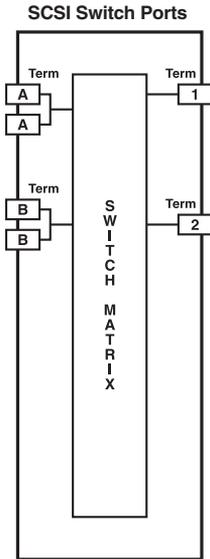

Figure 2-1. SC121A block diagram.
Ports A and B are fully bidirectional to ports 1 and 2 (see Figures 2-1 through 2-3). You determine where to connect computers, host adapters, and peripherals. In general, if daisy-chained ports are required for connection to external peripherals, use ports A or B.
- 3. In Figures 2-1 and 2-3, "Term" shows where terminators should be installed.**